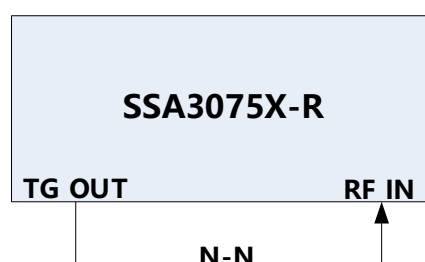

Figure 3-10 Connecting test instruments for TG Output
1. Connect RF IN port and TG OUT port by an N-N cable as figure 3-10 shows